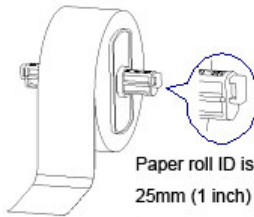
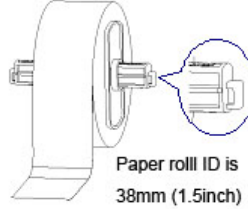

Figure 2.2.5
Figure 2.2.6
- 5) Paper roll has two sizes of I/D: 25mm (1 inch) and 38mm (1.5 inch). When paper roll ID is different, the method of loading paper holder into paper cabinet will be different. Operation method is as below (See figure 2.2.5 and figure 2.2.6).